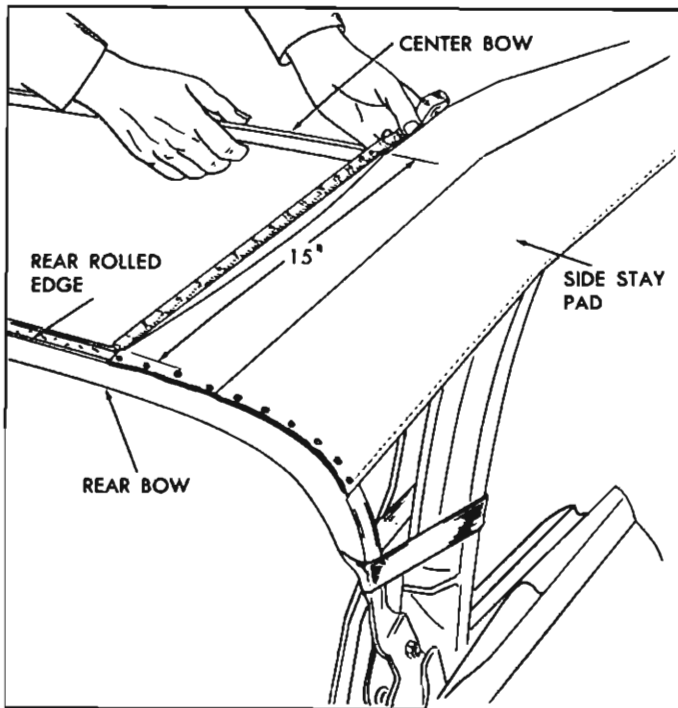

Fig. 49—Positioning Rear Bow
4. Trim selvage end of side stay pads just forward of rear rolled edge of rear roof bow (fig. 49).